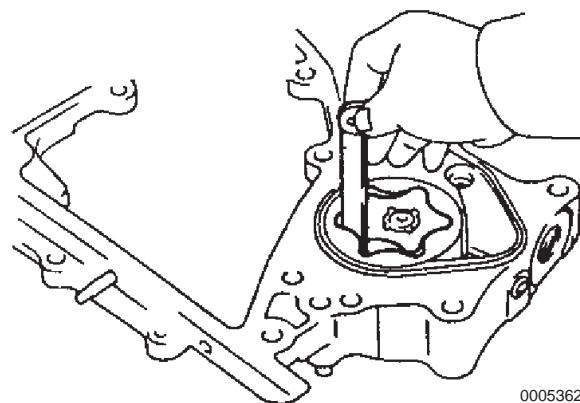

Figure 8-10
5. Check the clearance at the rotor tooth tip. Measure clearance at the tips of drive and driven rotors using a feeler gauge (Figure 8-10). If the measured clearance exceeds the specified maximum, replace the oil pump assembly.